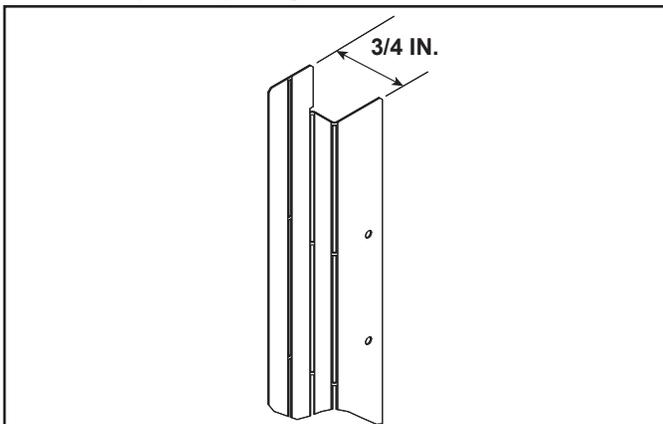

Figure 10.1 Side Finishing Template Bend - LMOD Decorative Fronts
2. If applicable, bend the left and right side templates for the appropriate decorative front type using Figure 10.1 as a reference.